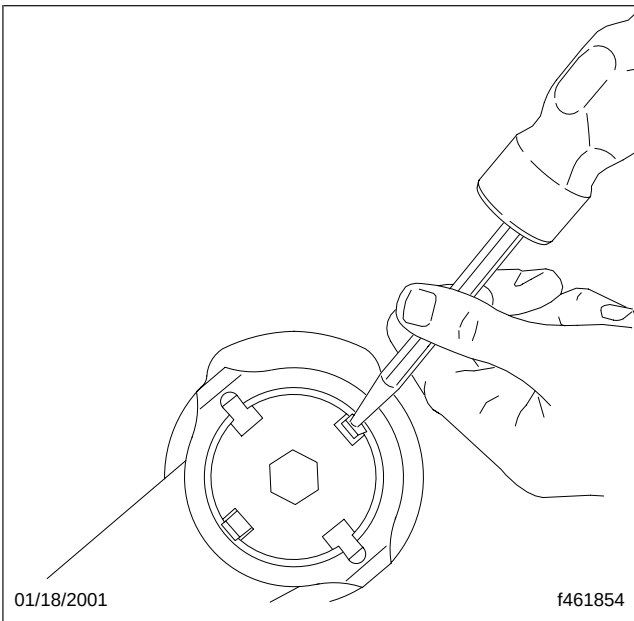

Fig. 2, Bending the Restraining Tabs
5. Using a punch and hammer, bend the restraining tabs of the washer into the notches on the retainer. See Fig. 2. Apply torque seal, OGP F900WHITE, to the tabs.